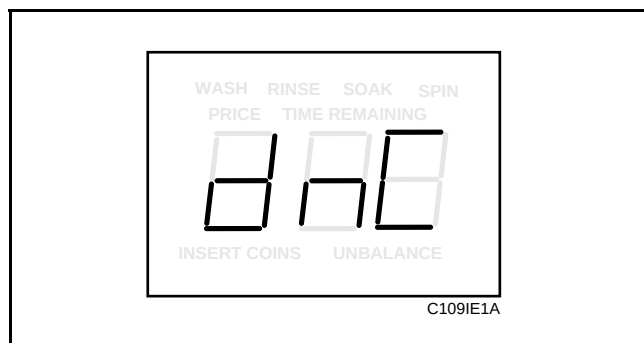

Figure 14
3. Press the DELICATES (+) pad or the COLD (-) pad to scroll through the programmable options until “dnC” appears in the VFD. See **Figure 14**.